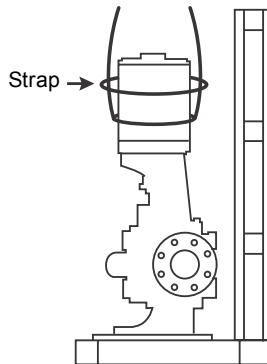

Fig. 4 KPV, KPVS pumps, correct lifting points
5. Position two lifting straps around the motor, below the junction box and 180 degrees apart. See fig. 4.